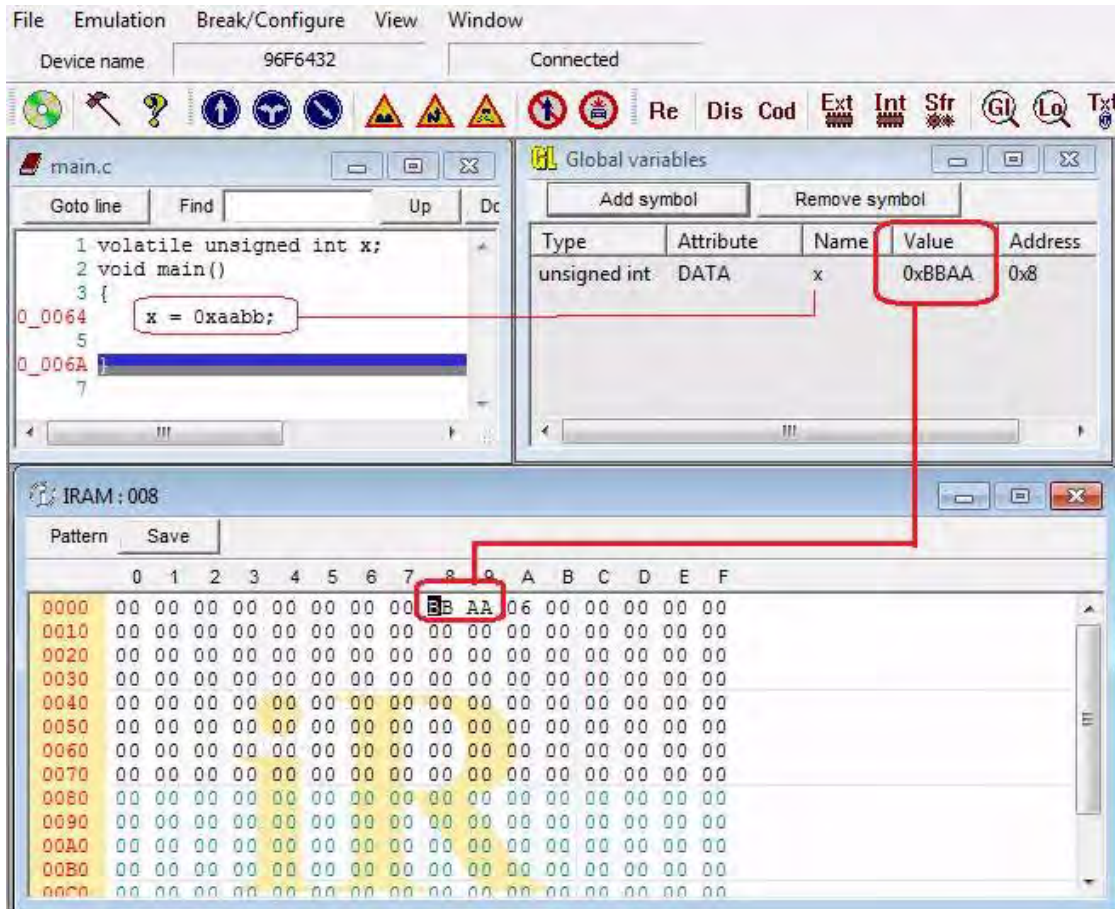

Figure 4. Endianness Reversal In SDCC
Figure 4, from the Z8051 OCD Debug Tool, shows an example of the OCD watch window in which the bytes in variable *x* are reversed due to the SDCC's use of the little-endian convention.
► **Note:** In Figure 4, the least-significant byte of x is stored at the lower address.